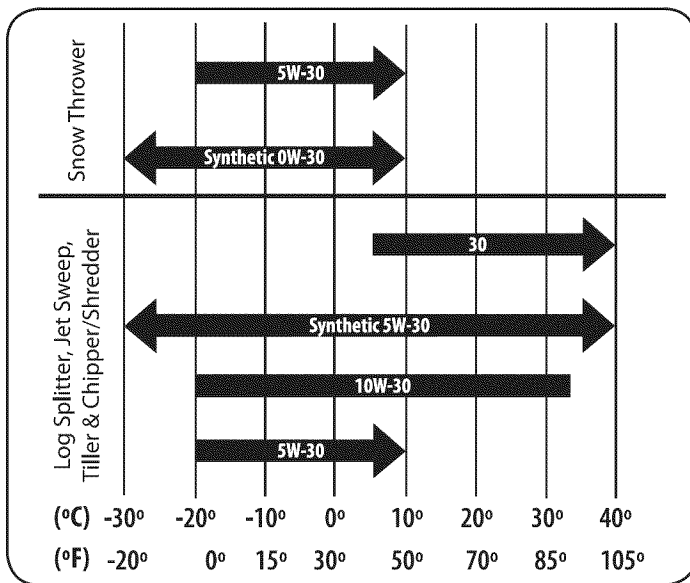

Figure 25
- Refer to the viscosity chart (Figure 25) for oil recommendations. Do not over-fill. Use a 4-stroke, or an equivalent high detergent, premium quality motor oil certified to meet or exceed U.S. automobile manufacturer's requirements for service classification of a minimum level SF or SG (higher letter ratings are acceptable such as SJ, SL and SM grades). Motor oil will display this designation on the container.